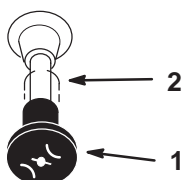

Figure 16
- After the engine starts, move the choke to **off** (Fig. 16). If the engine stalls or hesitates, move the choke back to **on** for a few seconds. Then move the throttle lever to desired setting. Repeat this as required.